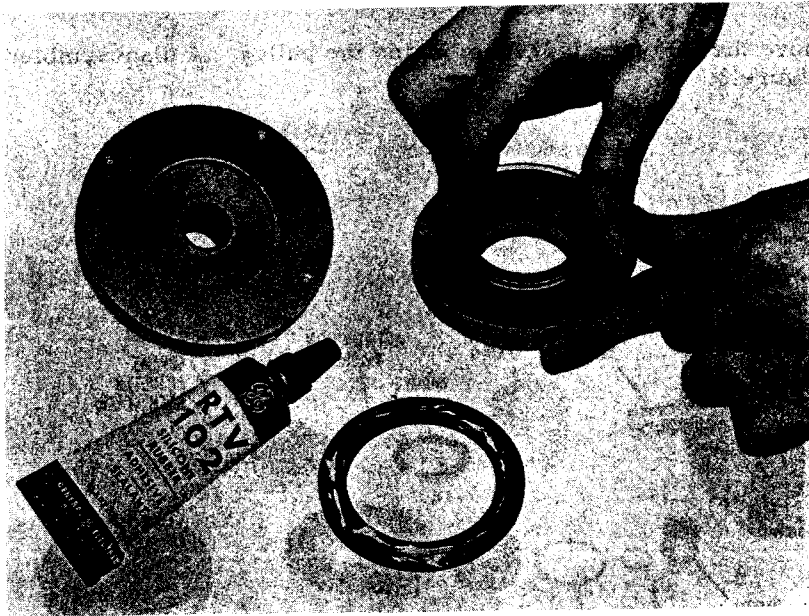

FIG. 4 CLUTCH LINING INSTALLATION
- Fig. 4. Clutch Lining Installation.
- 9.2.6 Apply adhesive to one side of each new lining and mount the lining on the clutch pulley as shown in Figure 4. Distributing pressure evenly over the lining, press the lining into place while rotating it back and forth to spread the adhesive evenly.